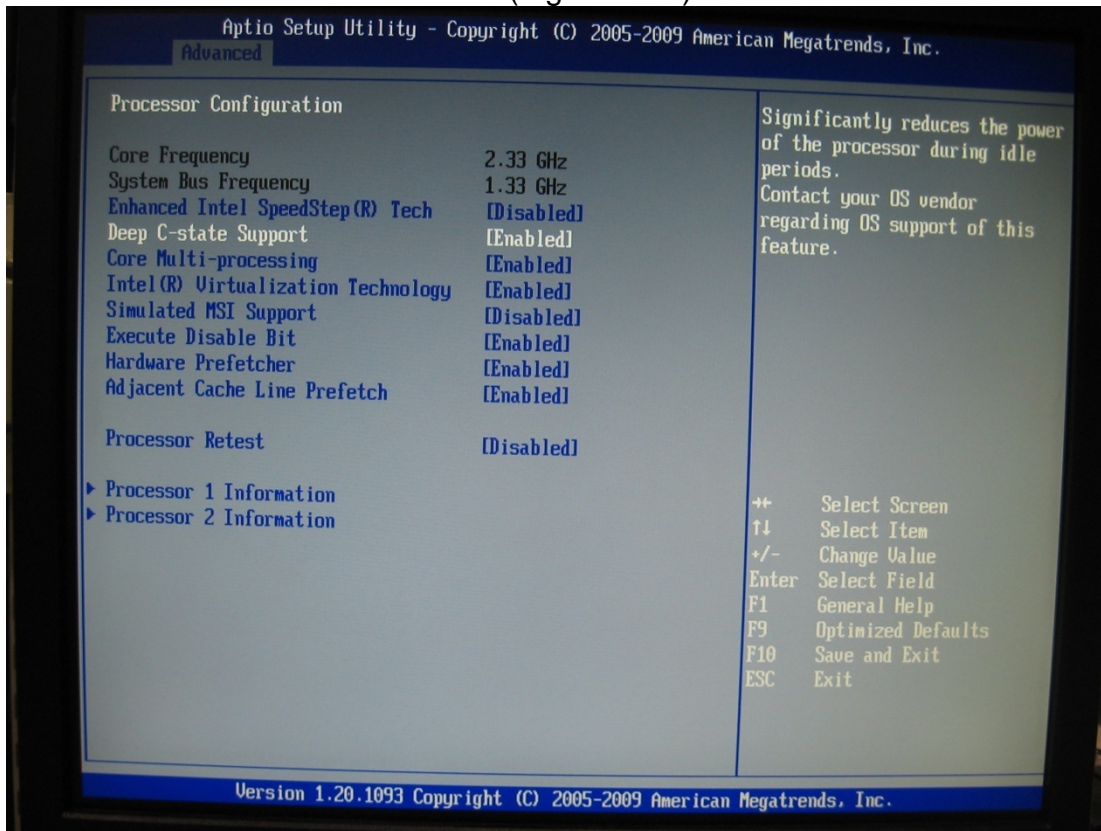

Figure 6-15 Processor Confirmation Screen
- In **Processor Confirmation** screen select **Deep C-state Support** and press **Enter**. (Figure 6-15).